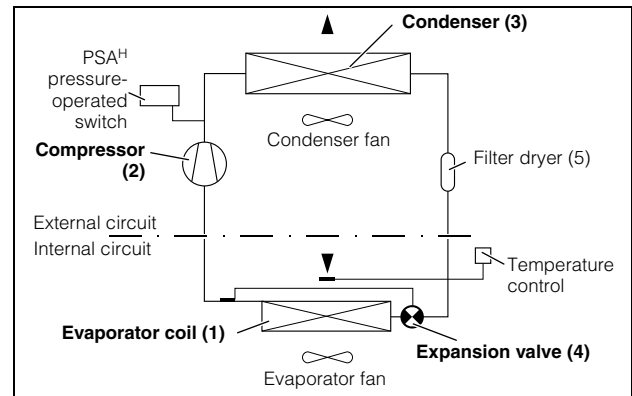

Fig. 2: Cooling circuit
The cooling unit (compression refrigeration system) is comprised of four main components (cf. Fig. 2): The evaporator (1), the coolant compressor (2), the condenser (3), and the control or expansion valve (4), which are connected by suitable pipework. The internal and external circuits are connected with flexible coolant lines and the appropriate control lines. This circuit is filled with a readily boiling substance, the refrigerant. Coolant R134a (CH_2FCF_3) is chlorine-free.